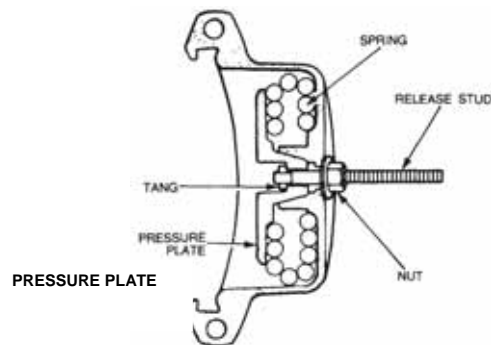

Figure 12 Spring Brake Release Stud
39. **Removal.** Remove the service and spring brake chamber as follows (Figure 12):
**40. Installation.** Install the service and spring brake chamber as follows (Figure 12):